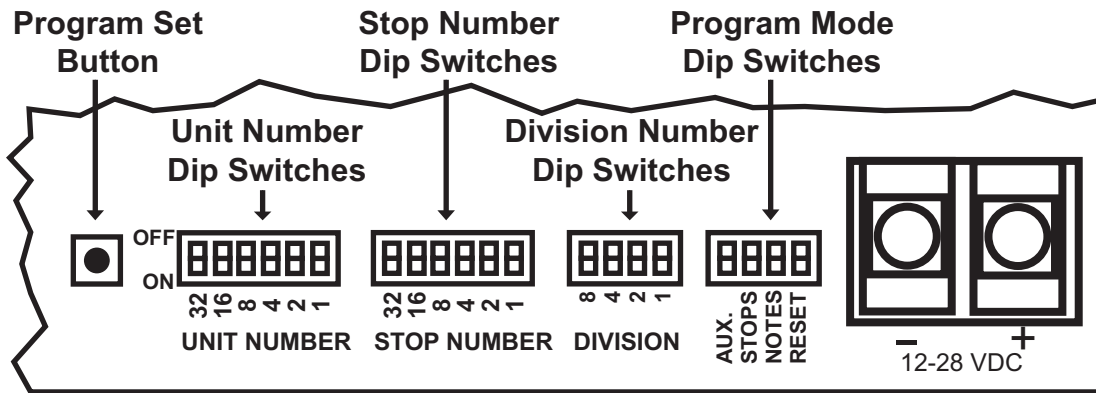

FIGURE 4.3 "DRIVER BOARD PROGRAMMING DIPs"
2. On the Program Mode Dip Switches, see figure 4.3 "Driver-Board-Programming-DIPs," set the STOPS Switch to ON(closed) The AUX., NOTES and RESET Switches must be OFF (open).
4. Set the Division Number Dip Switches, see figure 4.3 "Driver-Board-Programming-DIPs," to equal the division number that the Console Stop is in (Pedal/Division-1; Great/Division-2; Swell/Division-3 and Choir/Division-4 ...).
5. Set the Stop Number Dip Switches, see figure 4.3 "Driver-Board-Programming-DIPs," to desired Stop number.
6. Set the Unit Number Dip Switches, see figure 4.3 "Driver-Board-Programming-DIPs," to desired Unit number. For a list of Stop Unit Numbers see tables 4.1 and 4.2 "Stop Unit Type."
9. On the Program Mode DIP Switches, see figure 4.3 "Driver-Board-Programming-DIPs," set the STOPS switch to OFF; programming is complete.